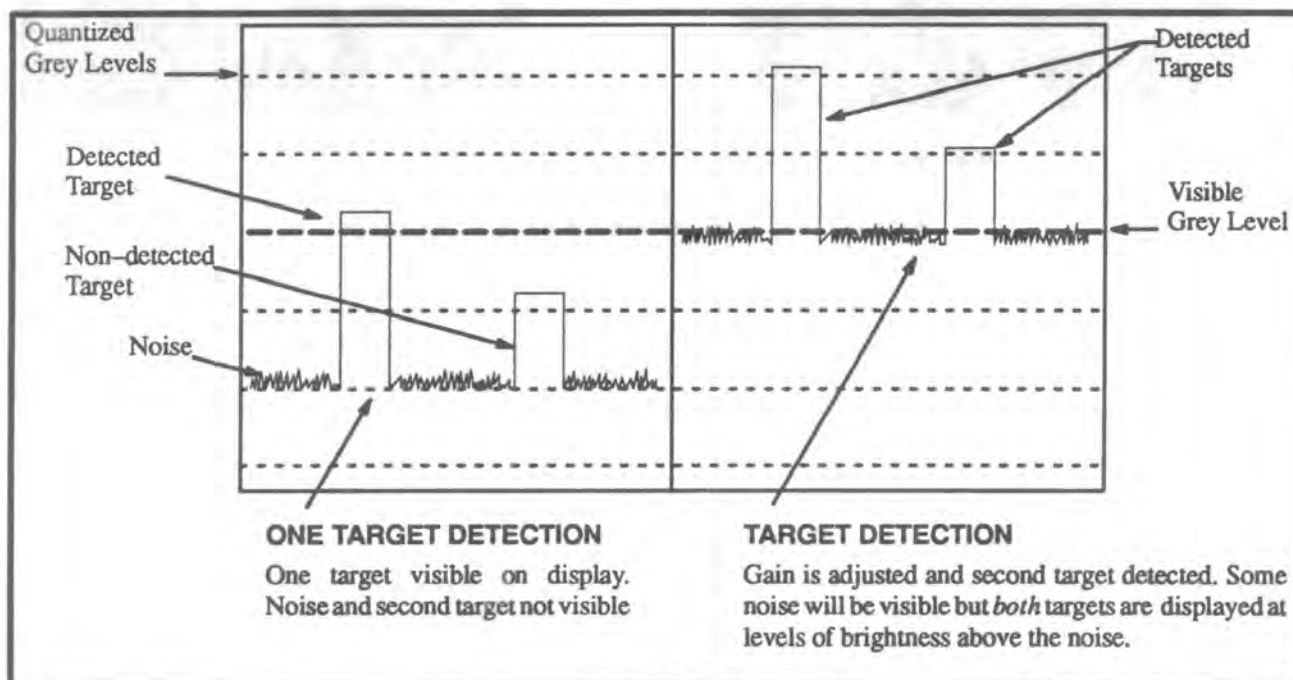

Figure 7-33 Gain Adjustment For Target Detection
7.242 A target detection is recognized in SEA 1 when a discrete target exceeds the background clutter levels by at least one grey level in the 13 different levels available. It is possible for a target and the clutter signal to appear at the same grey level and fail to be detected. Coarse adjustments in the SEA 1 gain controls the signal energy entering the receiver while fine adjustment of the gain about the gross position permits changing the grey scale quantization by about one level, as shown in Figure 7-33.